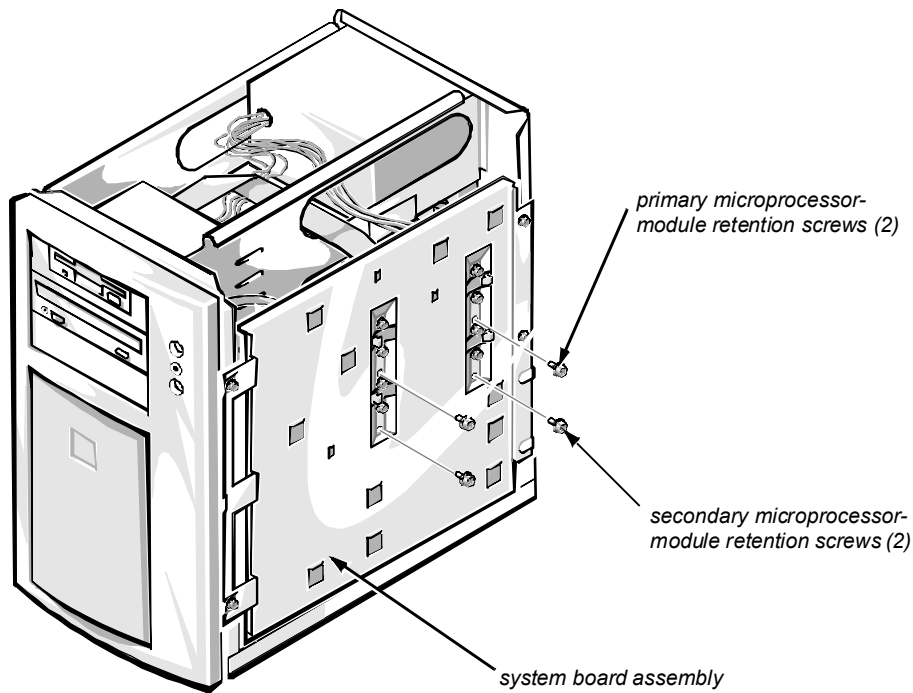

Figure 3. Microprocessor-Module Retention Screws
- a. Using a 1/4-inch nut driver, remove the two hexagonal screws securing the microprocessor module to the system board assembly (see Figure 3).